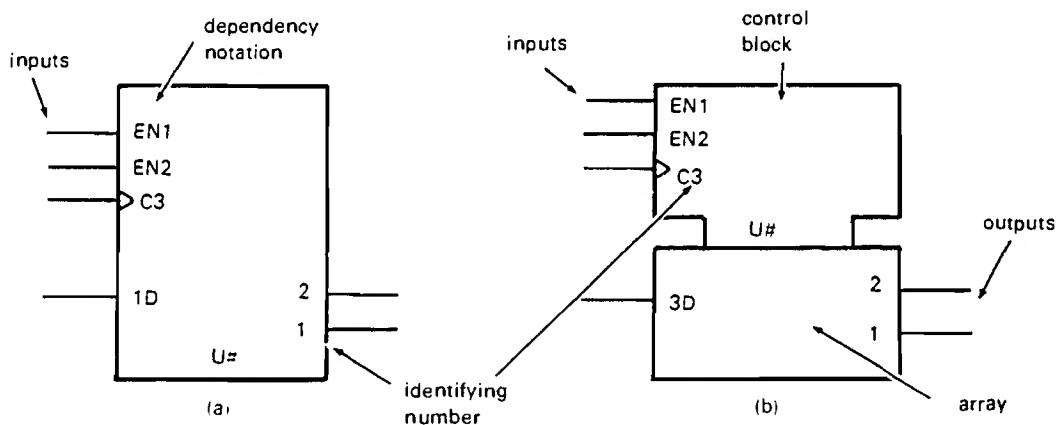

Figure 1. ANSI Symbol Outline
The physical layout of each symbol is simple, Figure 1 shows two variations. The style used depends on the function of the component. The difference between 1(a) and 1(b) is the control block. The control block visually emphasizes the difference between control and data inputs.
- b. Signals modifying data or other signals are described with DEPENDENCY NOTATION. These signals are input to the control block when symbol outline shown in Figure 1(b) is used.